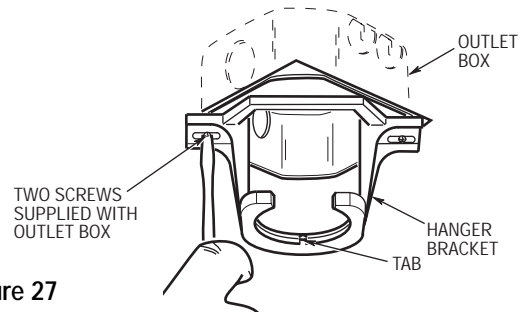
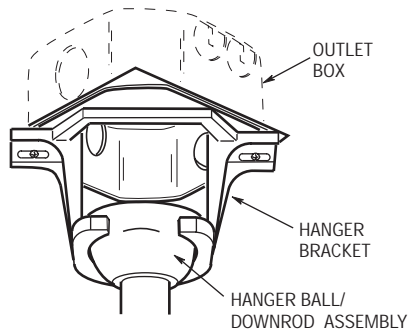

Figure 27
Figure 28
- 20. Securely attach the hanger bracket to the outlet box using the two screws supplied with the outlet box (Figure 27).
- 21. Carefully lift the fan and seat the hanger ball/downrod assembly on the hanger bracket that was just attached to the outlet box (Figure 28). Be sure the groove in the ball is lined up with tab on the hanger bracket (Figure 27).